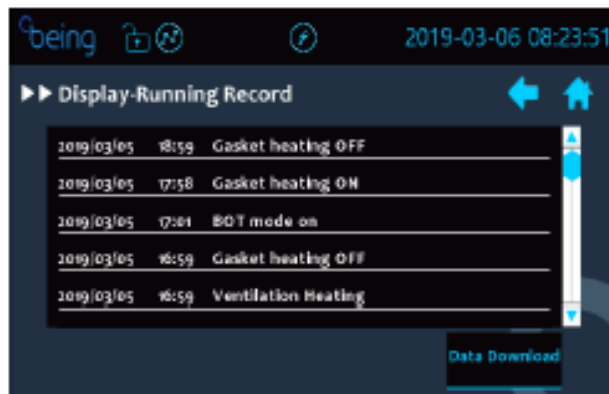

Figure 1-18.
5. Touch the running record display area from the home page to enter the running record page, as shown in Figure 1-18.